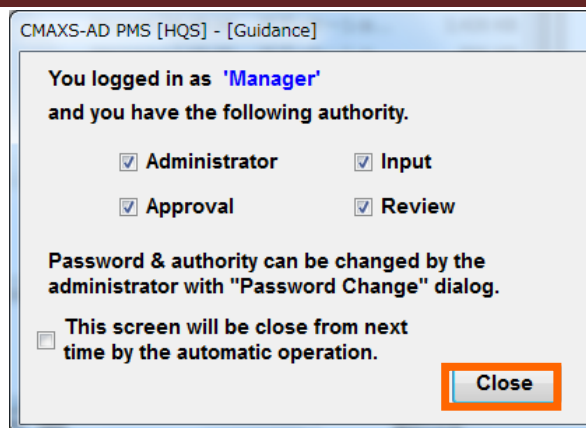

Fig.3-2-2 Guidance Dialog
- (3) "Guidance Dialog"(Fig.3-2-2) is displayed.
5. Select [Close] button on “Guidance Dialog”(Fig.3-2-2).